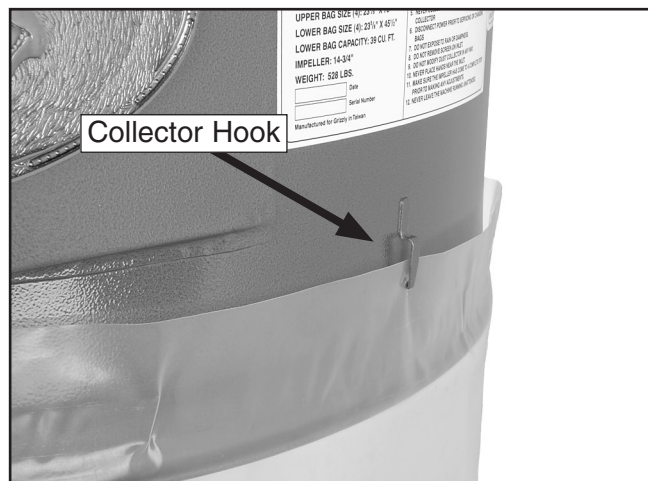

**Figure 21.** Upper filter bag secured to collector.
- Thread the bag clamp into and around the bottom seam of the upper collection bag (see **Figure 21**).
15. Fasten the locking mechanism of the bag clamp to secure the bag to the collector (see **Figure 21**).